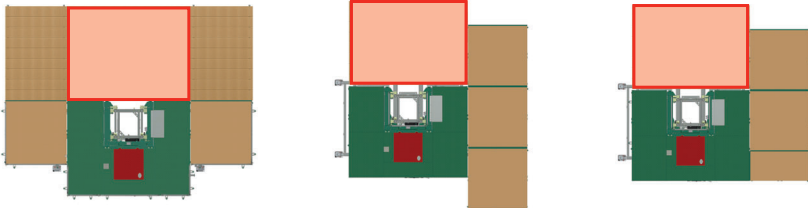

fig. 8.46
- 12- Install planks on the outriggers. Before raising or lowering the motorized unit, make sure that the planks are removed from the area in front of the mast and that the outriggers clear all obstacles, as shown in fig. 8.46.